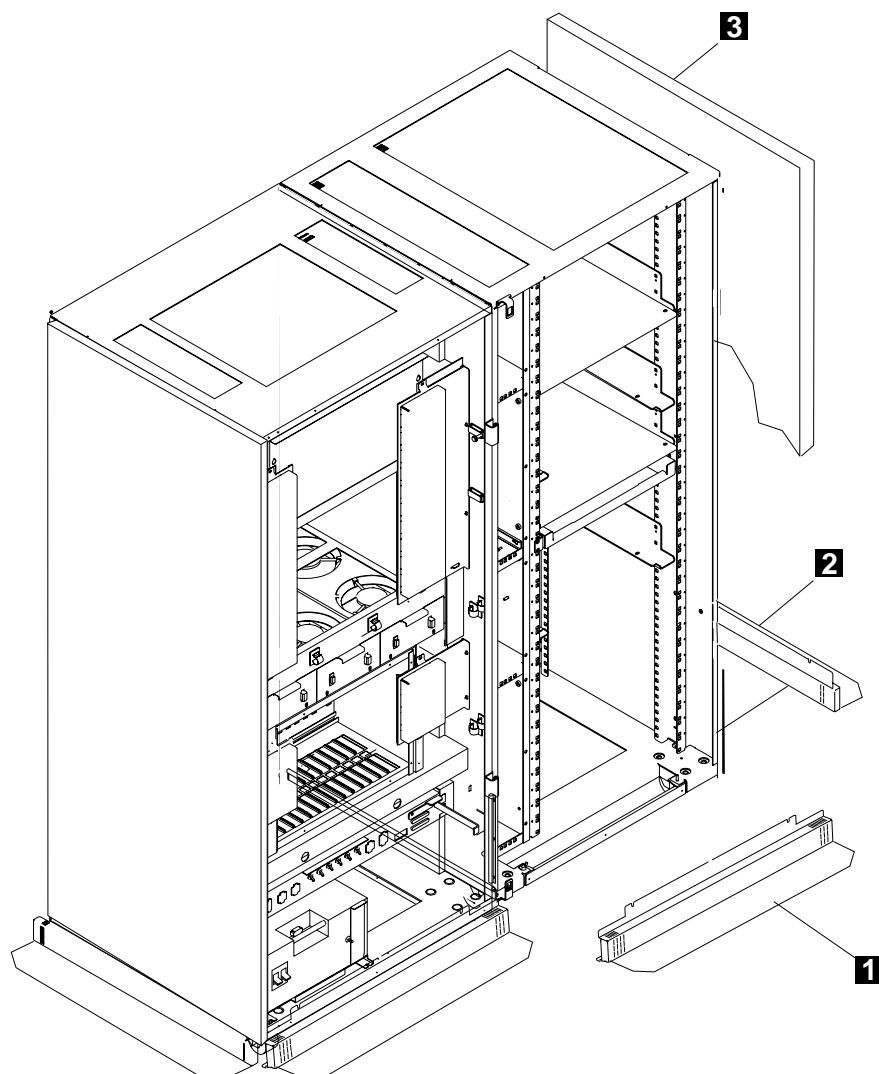

Figure 4. Controller Expansion Attached. Ground Brackets (Front View)
1. Install the front and rear ground brackets **1** (PN 58G5675) using 3 screws (PN 2665527) per ground bracket. (refer to Figure 4).